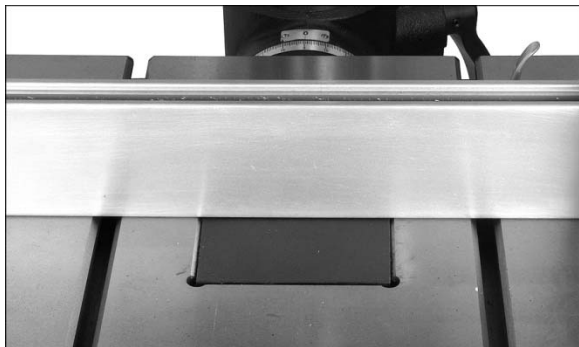

Figure 13
2. Position fence over table insert to use as a level (see Figure 13), and tighten it down.
3. Loosen nuts (M) first, then turn set screws (N) as needed until insert is level with table surface. Re-tighten nuts (M) up against table.